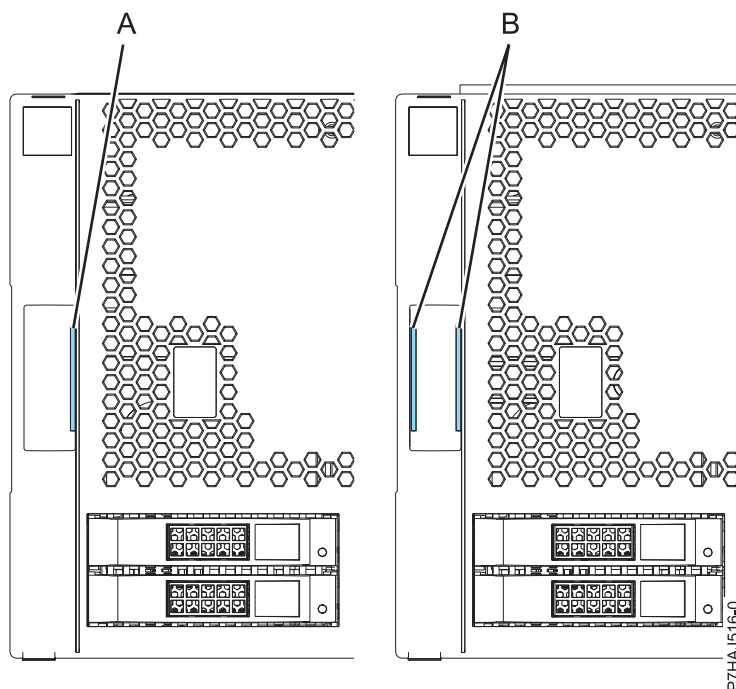

Figure 13. Identifying the older and newer covers
**Note:** The older covers that were shipped before 1 March 2011 can be identified by a single blue stripe (A) on the cover assembly latches. Newer covers that were shipped after 1 March 2011 have two blue stripes (B) on the cover assembly latches. See Figure 13.